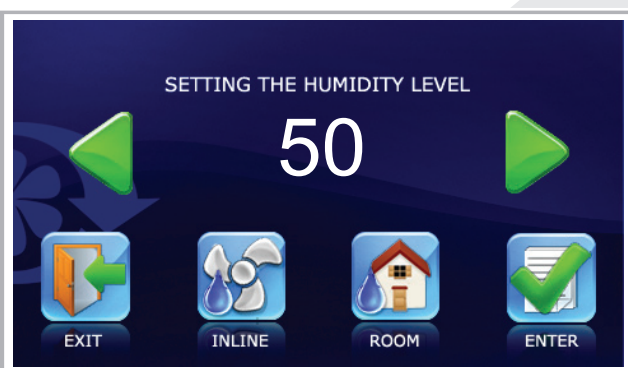

Fig. 26. Humidity setting
- Select the humidity sensor type for humidity control. Press **DUCT** to select the duct humidity sensor (option, not included into the basic delivery set) or **ROOM** to select the room humidity sensor (fig. 26).
- Press the button **ENTER** (fig. 26).